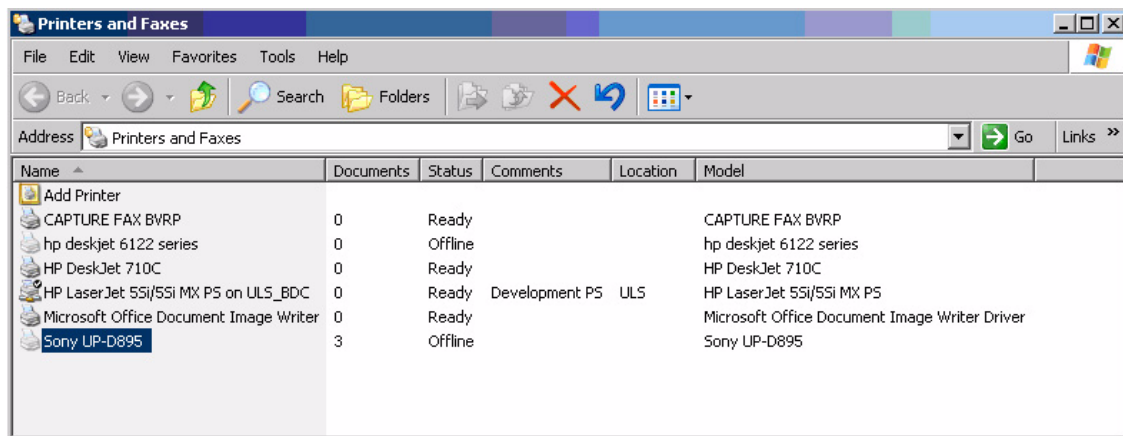

Figure 3-80 Printers and Faxes Window
- 2) Right-click on the destination virtual printer (see Figure 3-80) and select **Open**.